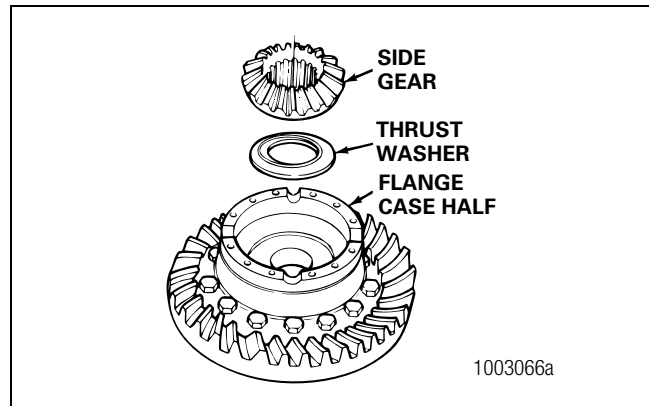

Figure 5.38
11. Install one thrust washer and side gear into the flange case half. Figure 5.38.